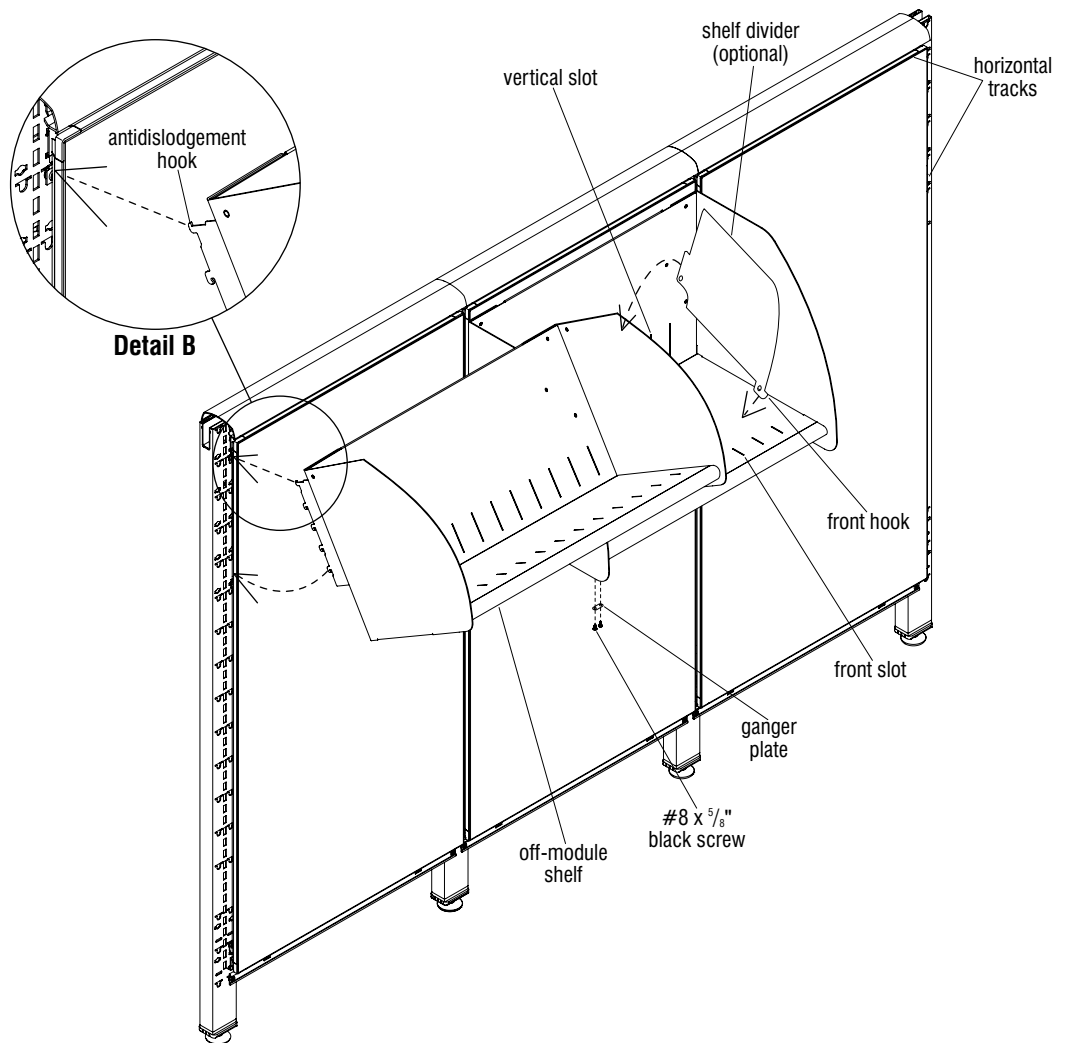

Figure 5
- When two or more shelves are installed next to each other, secure them together with a ganger plate. Fasten a ganger plate to the shelf bottoms with two #8 x 5/8" black screws (Figure 5).
- To install shelf dividers (optional), first place the front hook of the divider into the front slot of the shelf. Then rotate the rear of the divider down until the tab snaps into the vertical slot in the shelf back (Figure 5). To remove the divider, press lightly on the shelf back to release the rear tab and rotate it out.